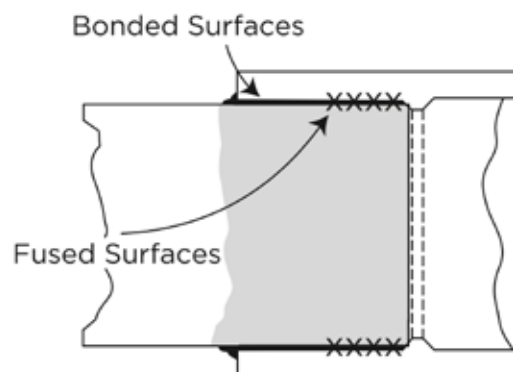

Figure 3: Fused and bonded surfaces of joined pipe and fitting.
3. If the One-Step solvent cement coatings on both the pipe and fitting surfaces are still wet and fluid at the time of assembly, they will naturally flow into each other and merge to form a single, unified solvent cement layer. Additionally, while the solvent cement remains wet, the material beneath the coated surfaces will still be in a softened state, and these dissolved surfaces within the tight section of the joint will tend to fuse together under the applied pressure (see Figure 3).